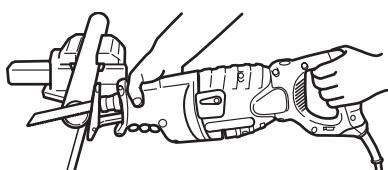

Fig. 20
- Fasten a workpiece firmly before operation. (Fig. 20)